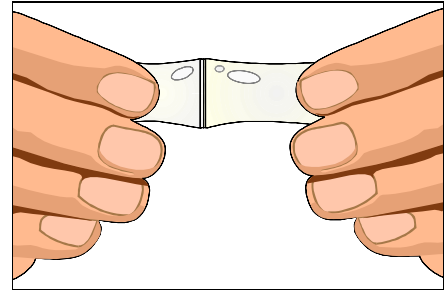

Figure 1: For prepackaged epoxy, remove divider clip and mix resin and hardener inside package.
1. Remove the clip separating the resin and hardener. Mix by squeezing both halves together with your fingers. Mix for at least one minute to ensure a complete mix of the resin and activator. (See Figure 1).